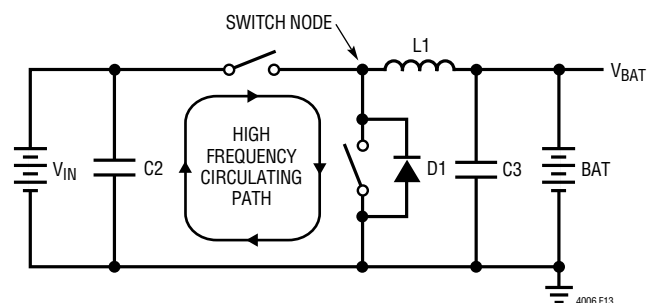

Figure 13. High Speed Switching Path
For maximum efficiency, the switch node rise and fall times should be minimized. To prevent magnetic and electrical field radiation and high frequency resonant problems, proper layout of the components connected to the IC is essential. (See Figure 13.) Here is a PCB layout priority list for proper layout. Layout the PCB using this specific order.
- For best current programming accuracy provide a Kelvin connection from R_{SENSE} to CSP and BAT. See Figure 13 as an example.